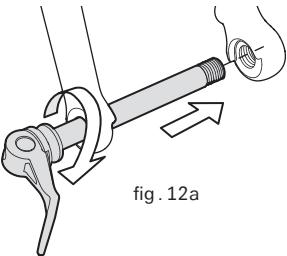
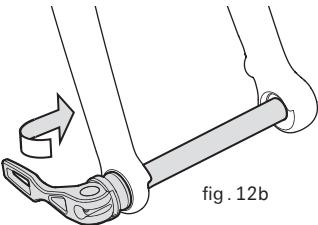

fig . 12a
fig . 12b
5. If your bike has the **Cervélo Traditional Thru-Axle mechanism**, move the preload lever to the OPEN position and rotate it to engage the slotted OPEN position (fig. 11a). Carefully insert the wheel between the fork blades, ensuring that the disc rotor properly slots between the brake pads as it slots into the caliper until the hollow axle lines up with the holes in the fork dropouts. The preload lever should be on the right side of the bicycle. Slide the thru-axle through the fork dropout and wheel hub until it contacts the dropout on the left side of the fork. Visually align the thru-axle with the dropout hole on the left side of the fork, and turn the preload lever clockwise to thread the axle into the dropout (fig. 12a). Continue to tighten until the threads are fully engaged in the left side dropout. Move the preload lever into the CLOSED position (fig. 12b). The lever should now be parallel to the fork blade and curved toward the wheel.